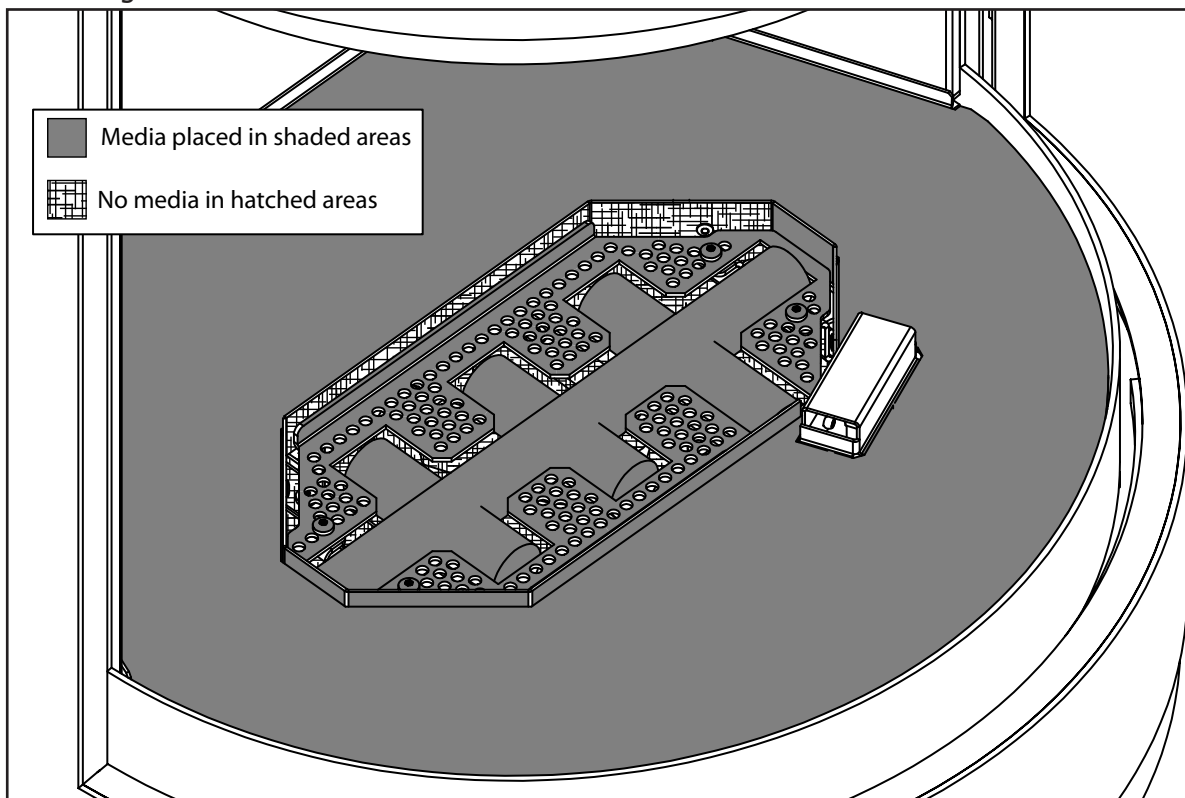

Figure 101: Media Installation Area
**\*Note:** Ensure that the areas highlighted in Figure 101 are not covered by media. These areas must be clear to allow the proper flow of air. Failure to do so will cause the fireplace to not burn properly.